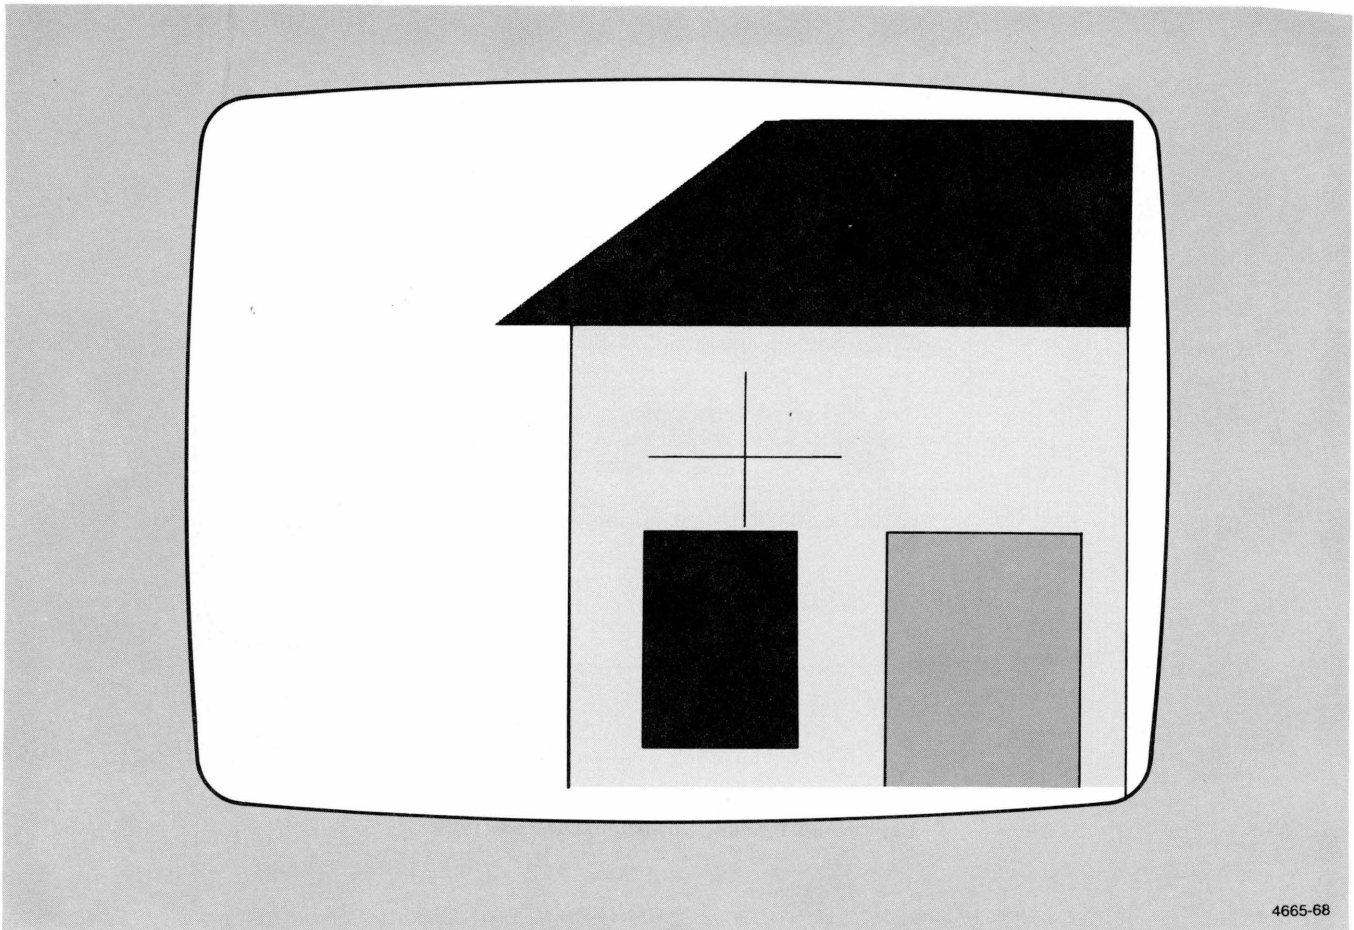

Figure F-20. Display Updated with VIEW.
7. When you have the box positioned, press the VIEW key (Figure F-14). The view is updated to display just the contents of the framing box (Figure F-20).